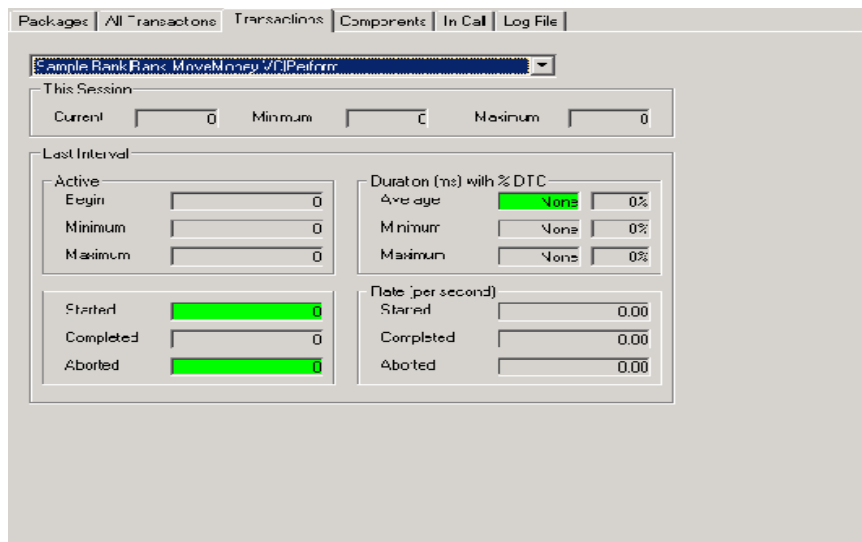

Figure 13
- Next select the **Transactions** run-time panel. The Transactions runtime panel displays metrics about a specific user transaction (see Figure 13).